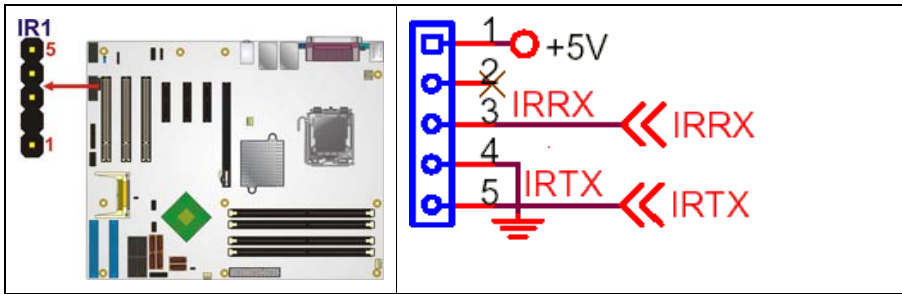

Figure 4-12: Infrared Connector Pinout Locations
- CN Location:** See Figure 4-12